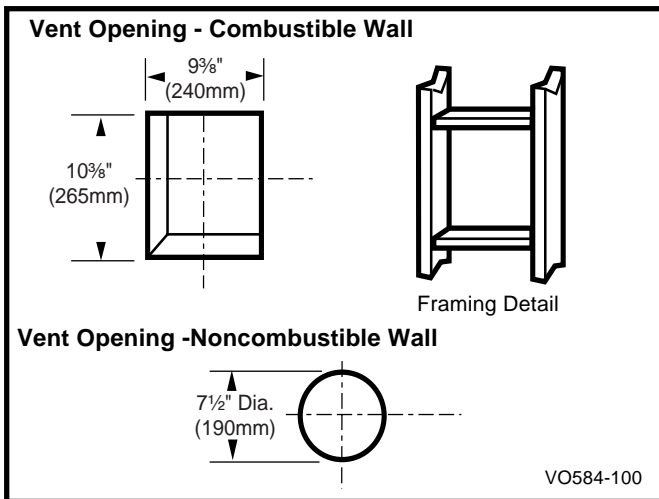

Fig. 24 Locate vent opening.
2. Locate the vent opening on the wall. Refer to Figures 24, 25 & 26 to determine the top of the opening centerline. It may be necessary to first position the stove and measure to find the hole location. Depending on whether the wall is made of combustible materials, cut the opening to the size shown in Figure 24. Combustible wall openings must be framed as shown in Figure 24